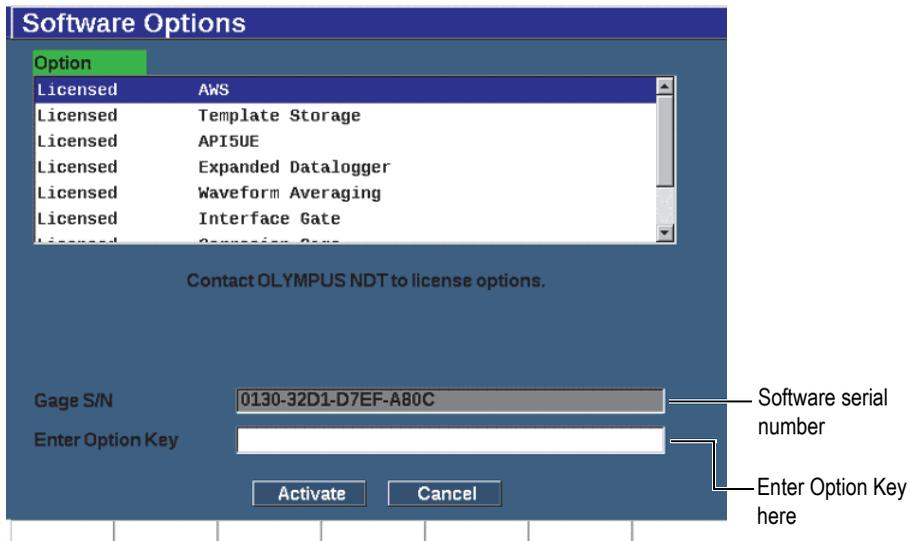

Figure 11-1 The Option key entry dialog box
2. Press **Software Options** (P4 key) to open the **Software Options** setup page (see Figure 11-1 on page 226).
7. Enter the activation code in the **Enter Option Key** field (see Figure 11-1 on page 226).